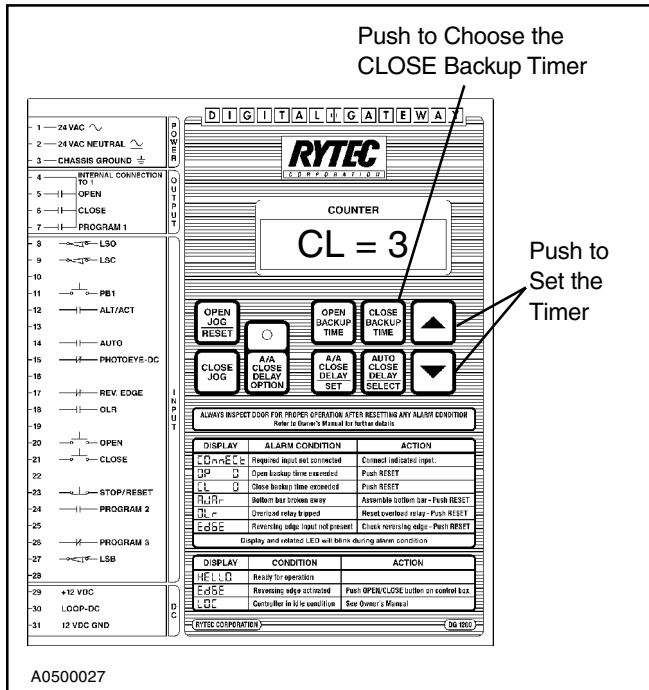

Figure 7
2. Use the UP and/or DOWN arrow keys to raise or lower the setting. Releasing the arrow key will enter the new setting in the memory. The display will show that setting for four seconds, or until another button is pushed. Figure 7 shows the setting of the Close Delay backup timer.